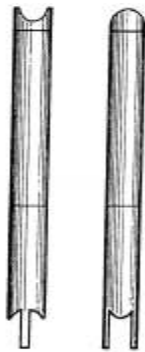

Fig. 7 Central dowel
- ✓ Make two slits with a hand saw, the depth of slits should be $\frac{3}{8}$ of diameter. Cut out dowels as shown in Fig. 7.